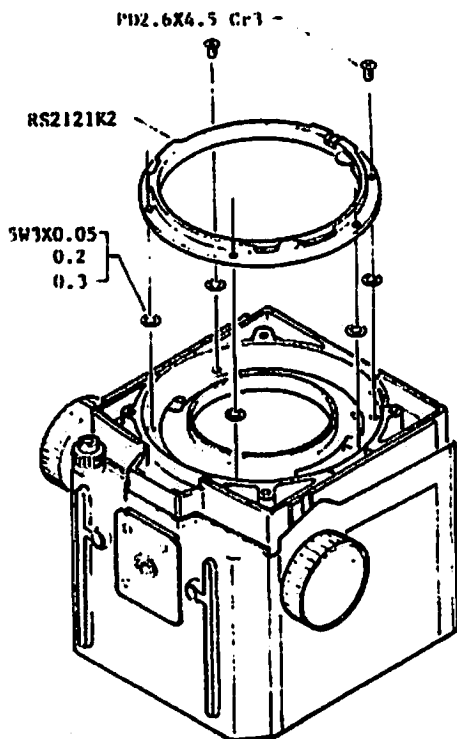

Fig.51
2. Measure the parallelism at four corners. Parallelism at four corners shall be less than 0.1mm. Use Washer to adjust parallelism. (5W3x0.05, 0.2 and 0.3) as shown in Fig. 51, 52.